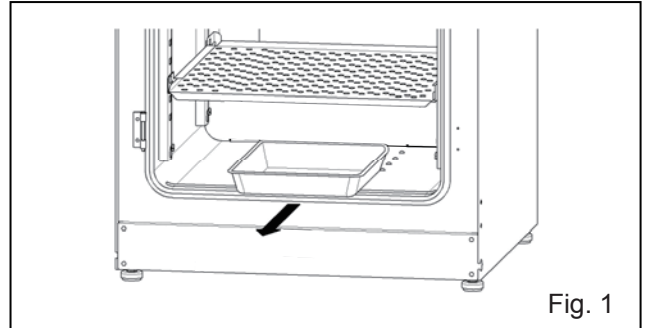

Fig. 1
3. Pull out the all trays. (See Fig. 1.)
1. (MCO-18AC(UV) or when an optional UV system kit MCO-18UVS3 is installed) Lift the humidifying pan cover. After that pull the humidifying pan forward. (See Fig. 1.)